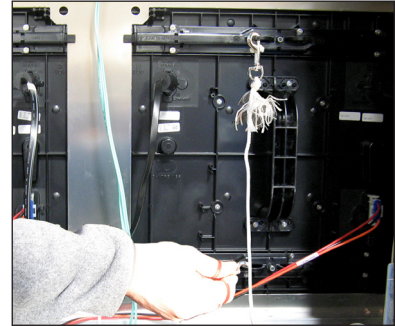

Figure 11: Attach Safety Lanyard to Modules
1. Attach one end of the lanyard to an attachment ring on the top of the of the module. Refer to **Figure 11**.
1. Attach one end of the safety lanyard to a lanyard ring on the top of the module. Refer to **Figure 11**.
3. Attach the other end of the lanyard to the lanyard attachment ring on the bottom of the module that will be removed. Refer to **Figure 11**.